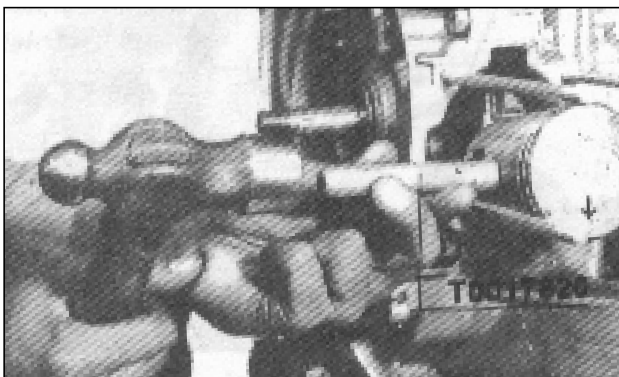

Fig. 176-Assembling piston
- (b) Fit the piston assembly by pressing wrist pin into connecting rod with a punch tool T-0017820. (Fig.176)